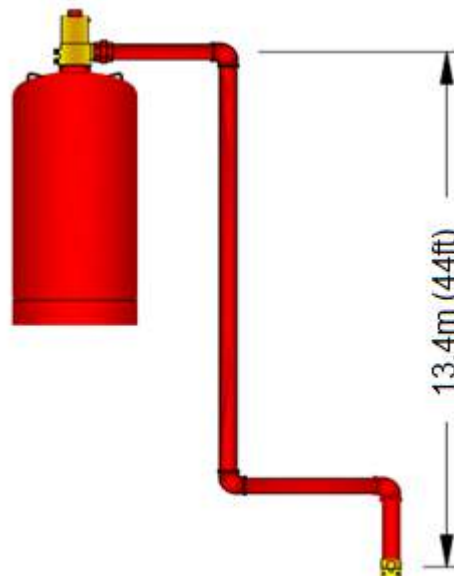

Figure 35 Nozzles Located Below the Cylinder Outlet
- In the event that the discharge nozzles located below the cylinder outlet, the maximum elevation difference between the cylinder outlet and the farthest horizontal pipe run or discharge nozzle (which is furthest) shall not exceed 13.4 m (44ft). Refer to Figure 35.